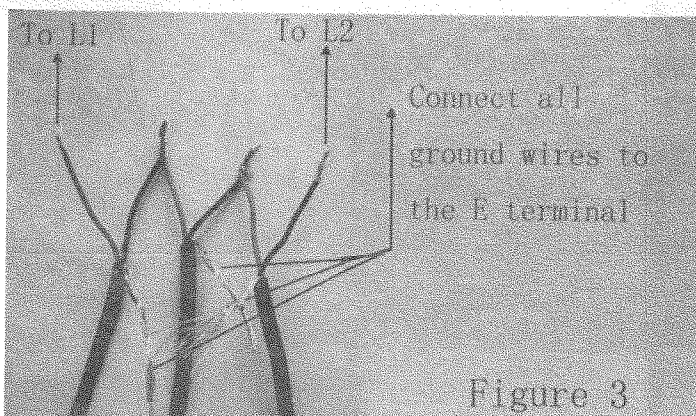

Figure 3
2. FOR UP TO THREE MATS OR CABLES: Connect one lead wire (not the earth wire) from one mat or cable into the L1 terminal. Connect one lead wire (not the earth wire) from a DIFFERENT mat or cable into the L2 terminal. Now connect the remaining lead wires so that the mats or cables are in "series" with one another. If this is not done properly, the MONITOR Alarm may not correctly monitor the mats or cables. Finally, connect all the earth wires from the mats or cables together to the E terminal (see *Figure 3*).